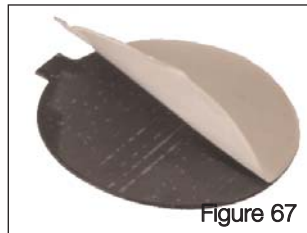

Figure 67
- a. Bend the flap of the Hopper Patch back to remove the adhesive backing. See Figure 67.